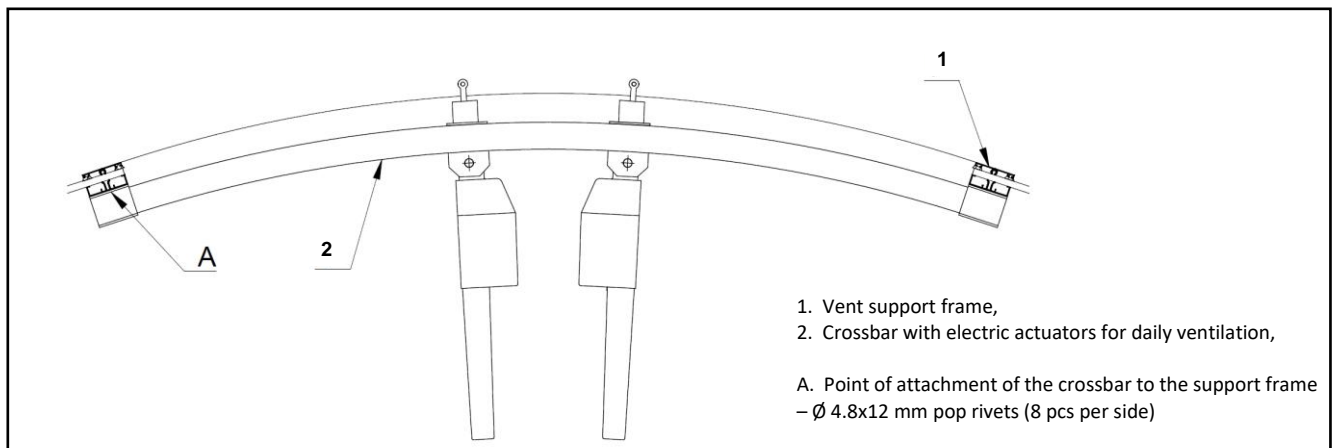
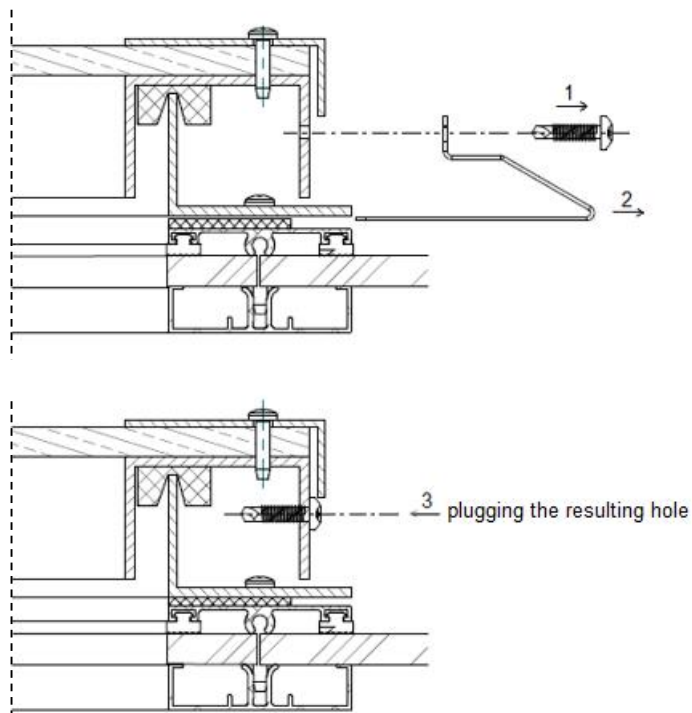

Figure 84 Assembly of crossbar z with electric actuators of ventilation hatch
Figure 88 Unlocking the vents and blinding the remaining hole (A-A cross-section of Figure 84 and Figure 96)
**Before connecting the actuators, unlock the vents following the instructions given in (Figure 88 Unlocking the vents and blinding the remaining hole (A-A cross-section of Figure 84 and Figure 96)).**